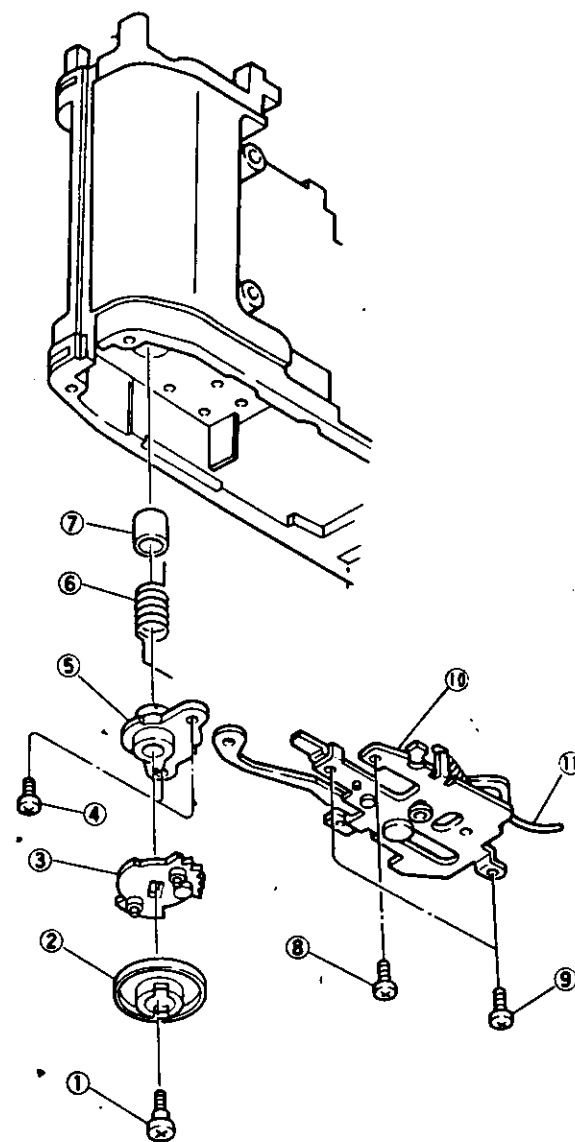

Fig. 14
10. Winding shaft (see Fig. 14)